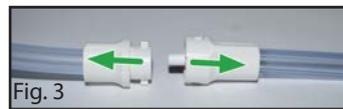

Fig. 3
- Pull the connectors apart (Fig. 3).